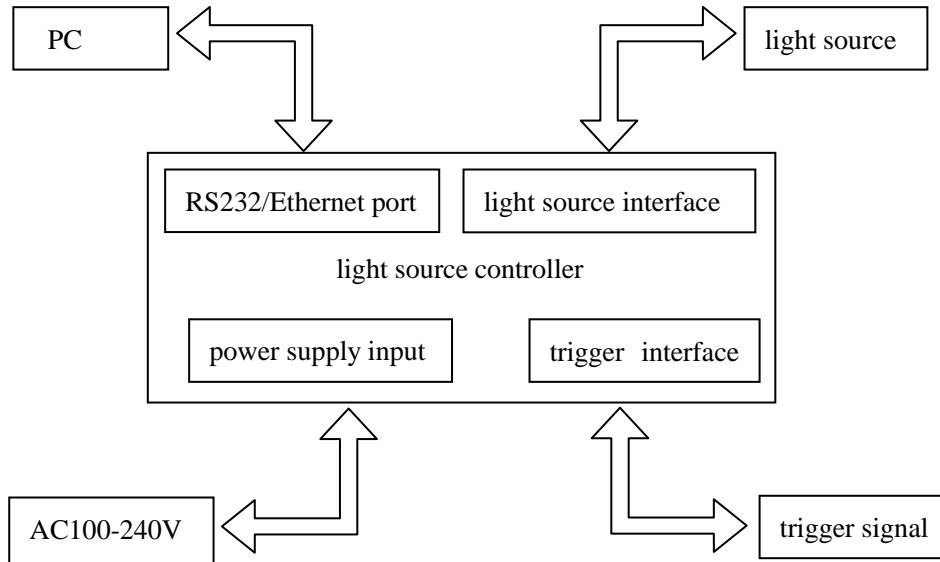

Figure 6: Wiring diagram
Step1: Connect the light source to controller (See Fig. 6).